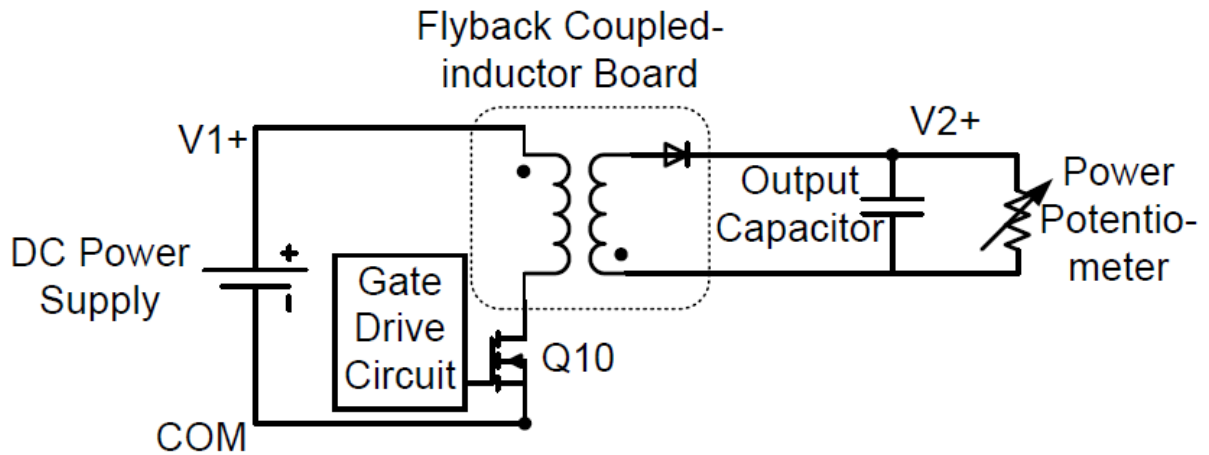

Fig. 1 Flyback converter circuit
- 1.7 Make sure the switch array for MOSFET selection (lower MOSGET), PWM selection, and other settings are correct to achieve a functional Fig. 1.